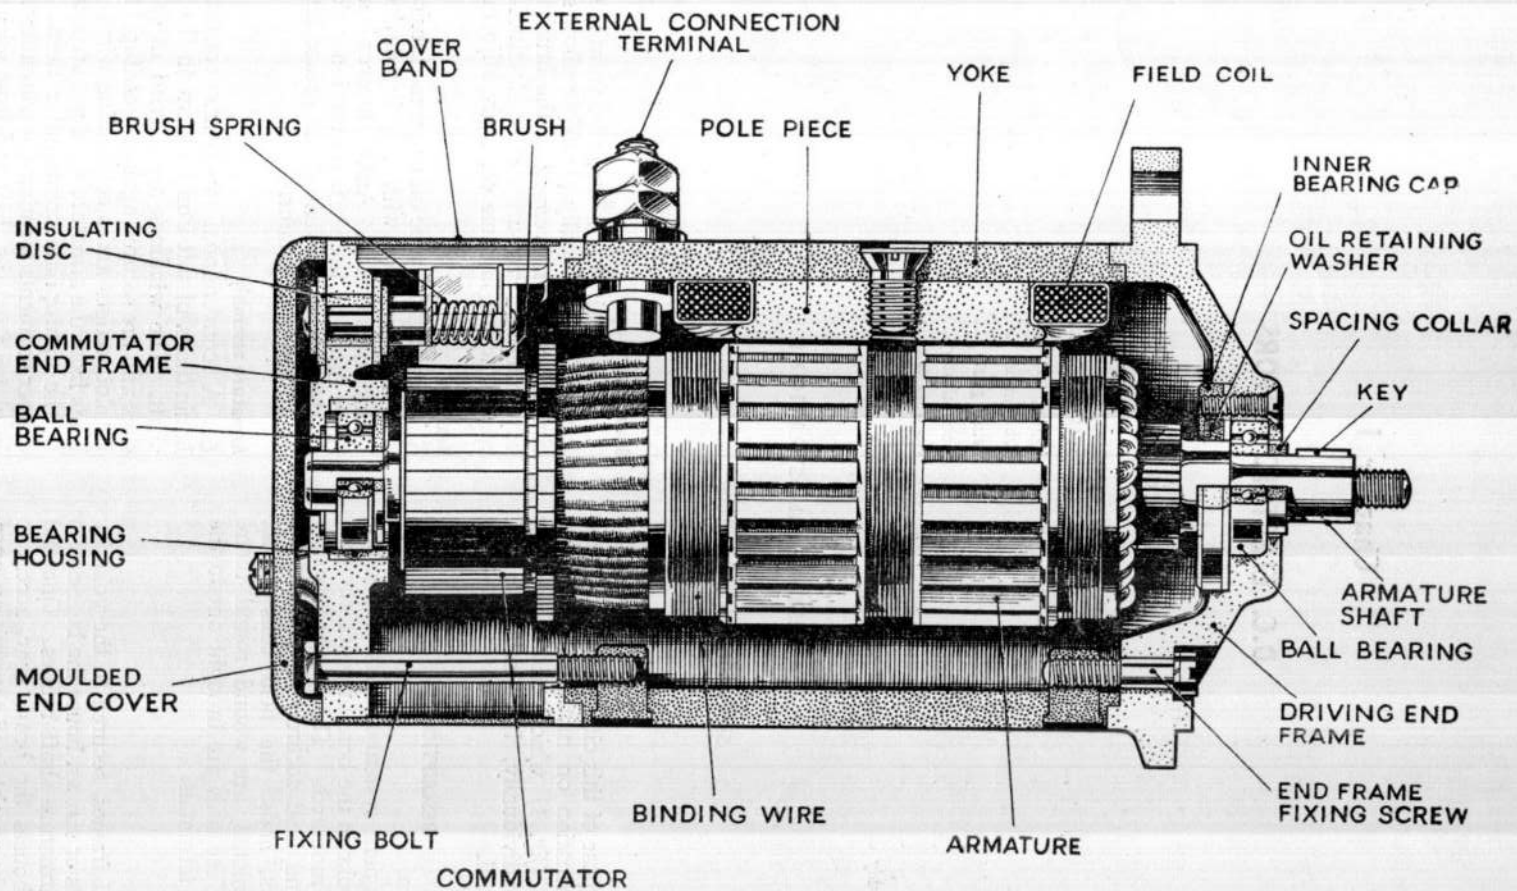

Fig. 1. Sectional view of typical motor
1. The purpose of this chapter is to provide general information on motors of orthodox construction (*fig. 1*) which, although they may vary individually, have certain items common to all.